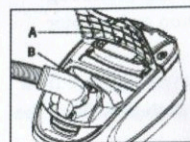

Fig. 5.1
Cleaning Tool Storage – The cleaning tools are conveniently stored in the cleaner underneath the tool lid, Fig. 5.1, (A). Push the tool lid release latch to open, (B). The cleaning tools have many uses. Select the tool best suited for the cleaning task from the following descriptions.